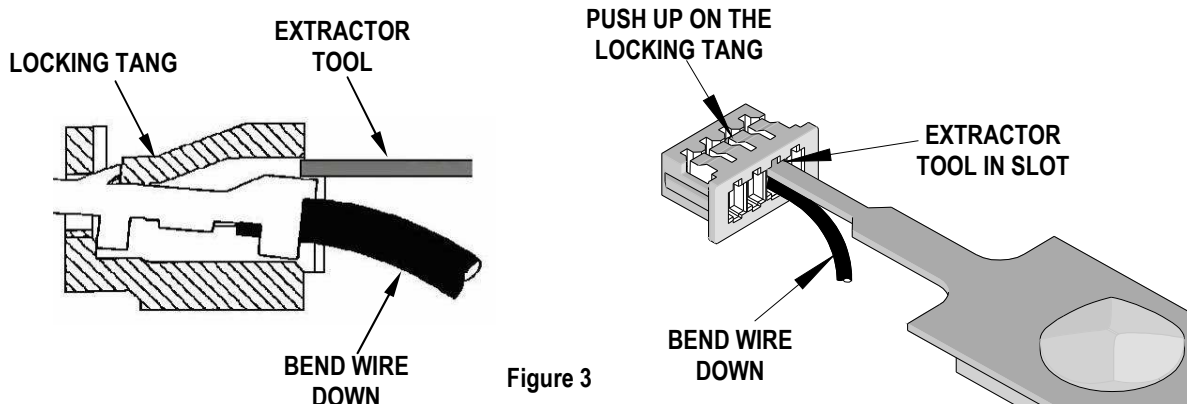

Figure 3
1. Hold the housing with the locking tang facing up. Bend the wire down and insert the tip of the tool into the housing under the locking tang. See Figure 3.